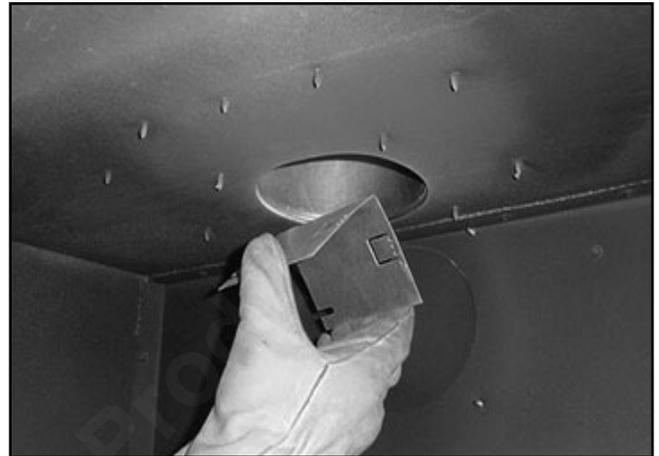

Figure 5.19 Placing the Baffle
3. Squeeze the open end of the bent baffle with one hand. Insert the baffle bent side up into the inner flue so that the bottom of the baffle is above the bead on the inside of the collar. See Figure 5.19.